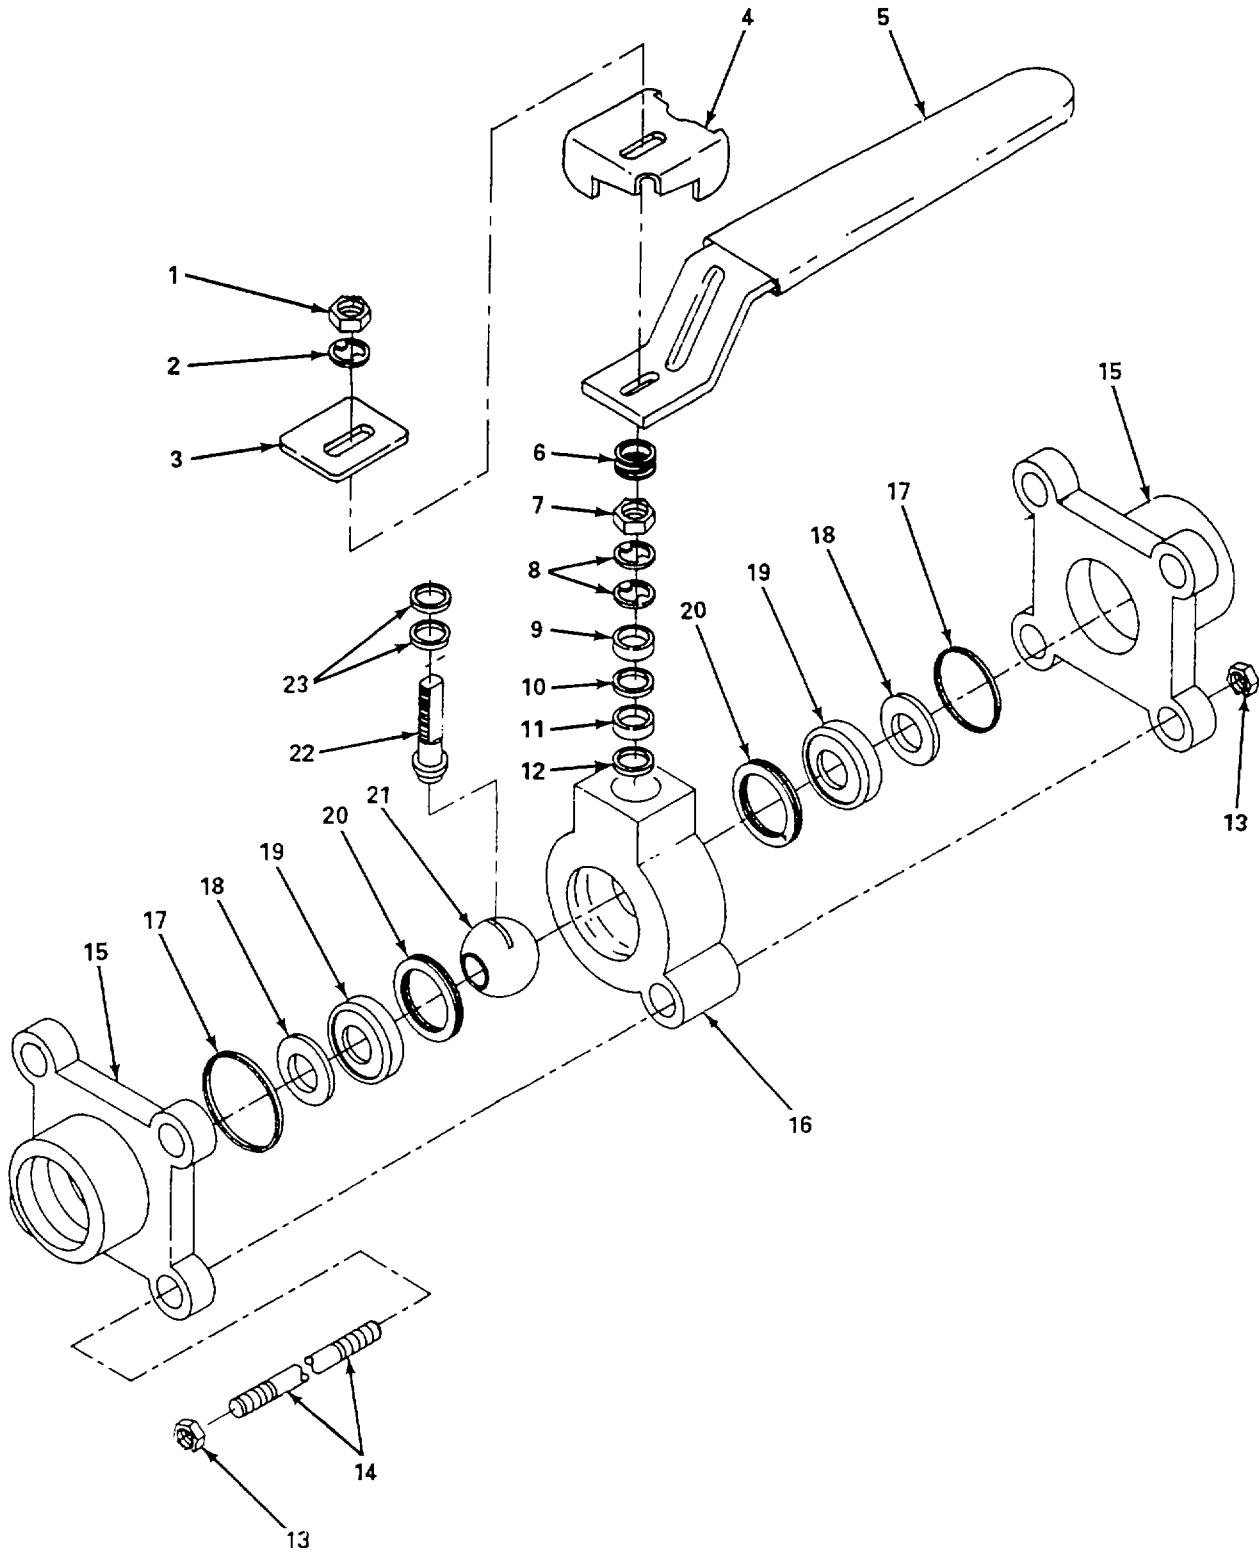

Figure 4-13. Heater/Chiller Fluid Valves Repair.
- (6) Apply teflon tape to all pipe threads.
- (7) Install valve (1) on nipple (5).
- (8) Install elbow (4) on valve (1).
- (9) Install line (3) and tighten fitting nut (2).
- (10) Open valve (1) and start up heater/chiller module to pressure check the system.
b. Repair. (figure 4-13)
- (1) Remove heater/chiller fluid valve, see para. a. above.
- (2) Remove nut (1), stem spring (2), plate (3), stop plate (4), handle (5), and spring (6).
- (3) Remove nut (7), two stem springs (8), gland (9), packing support (10), top packing (11), and bottom packing (12).
- (4) Remove eight nuts (13), four stud bolts (14), and two flanges (15) from body (16).
- (5) Remove two preformed packings (17), seat springs (18), seats (19), support rings (20) and ball (21) from body (16).
- (6) Remove stem (22), and two stem bearings (23) from body (16).
- (7) Clean all components using nonionic detergent cleaner and rinse with clean distilled water.
- (8) Inspect all items and replace all items that are bent, cracked, worn, or otherwise damaged.
- (9) Install two stem bearings (23) on stem (22) and install stem into body (16).
- (10) Install ball (21), two support rings (20), seats (19), seat springs (18), and preformed packings (17) in body (16).